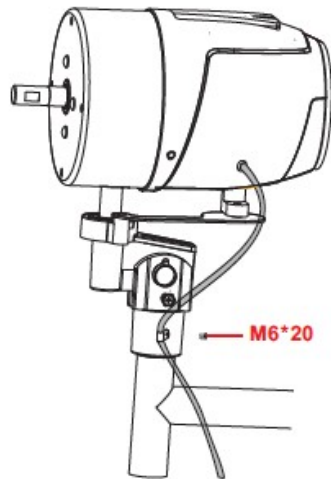

Figure 4
4. Unscrew the M6*20 screw on the pole. Place the power cable through the plastic cable holder then refix the holding screw. (Figure 4)